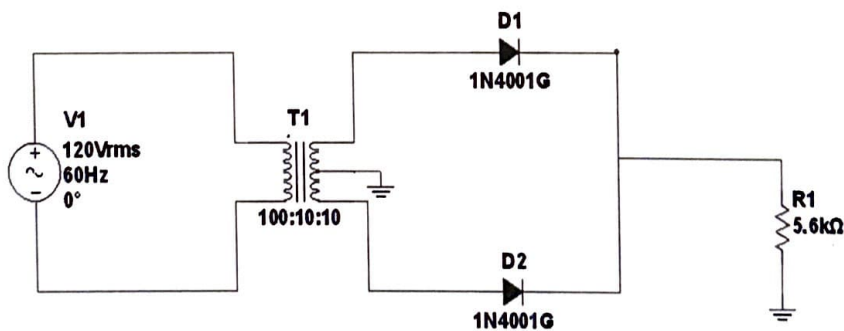

Figure 3: Full Wave Rectifier
1. Connect the circuit as shown in figure 3.